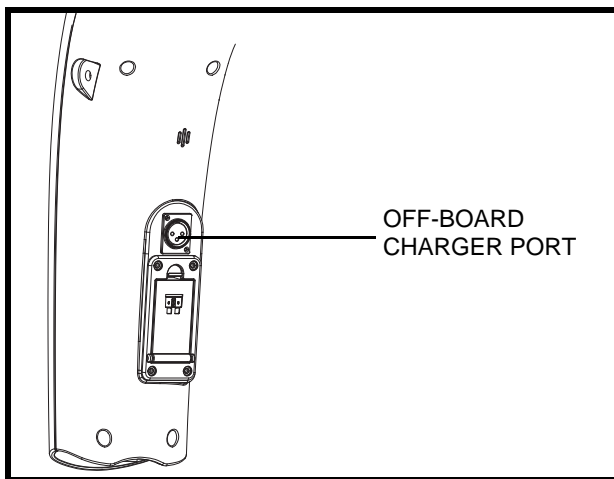

Figure 5. Off-board Charger Port
The off-board charger power lead plugs into this port during battery charging. The off-board charger port is located on the tiller. See figure 5.
4. Plug the 3-pin charger power lead into the off-board charger port. **See figures 5 and 11.**